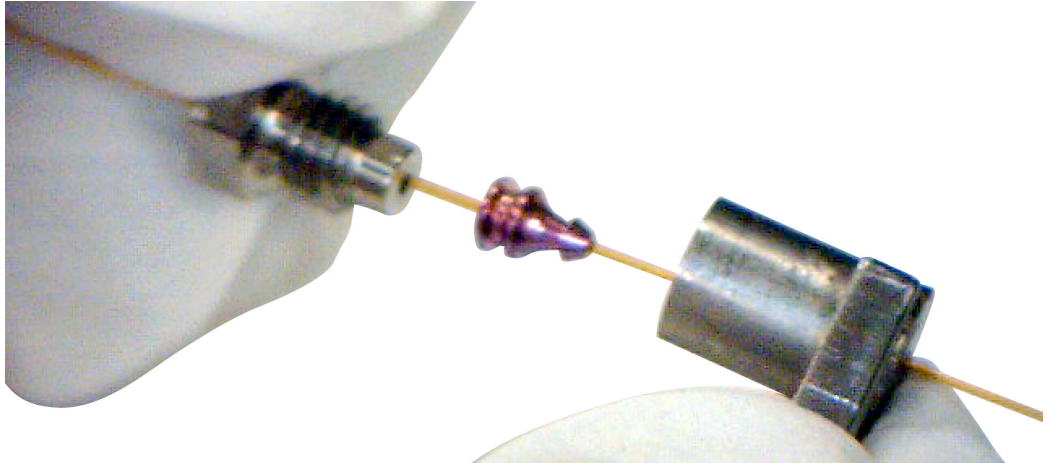

Figure 2 Thread the column through the internal nut, ferrule, and swaging wrench
- 1 Pass the column end through the internal nut, the ferrule, and the swaging wrench (Figure 2).